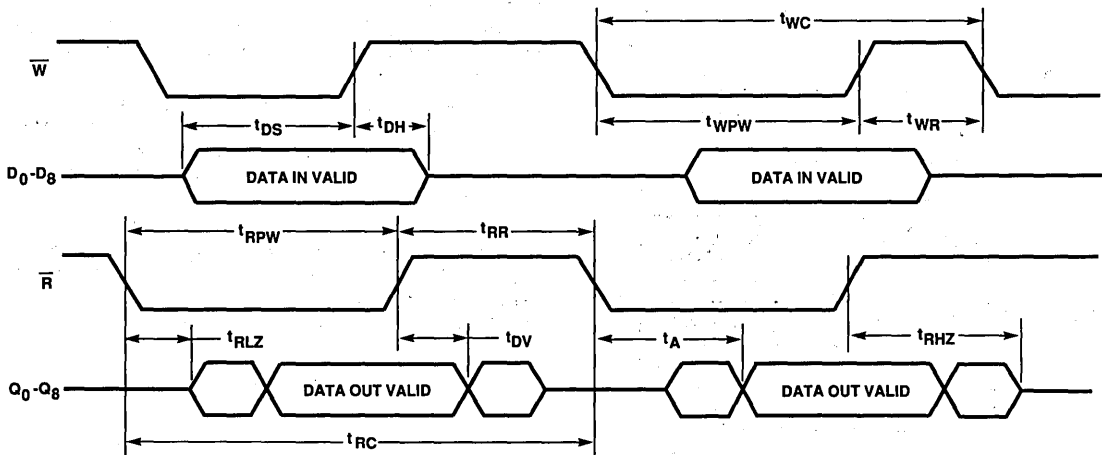

Figure 3. Asynchronous Write and Read Timing
The HIGH state of the Full Flag ( $\overline{FF}$ ) indicates that the FIFO is capable of accepting data. The falling edge of Write (W) initiates a write cycle. (See Figure 3.) Data appearing at inputs D0-D8  $t_{D0S}$  prior to and  $t_{D0H}$  after the rising edge of W will be stored sequentially in the FIFO.
The HIGH state of the Empty Flag ( $\overline{EF}$ ) indicates that the FIFO is ready to output data. The falling edge of Read (R) initiates a read cycle. (See Figure 3.) Valid data appears on the outputs Q0-Q8  $t_{x}$  after the falling edge of R, and remains until  $t_{D0V}$  after the rising edge of R. Q0-Q8 return to a high-impedance state when a valid read is not in progress.